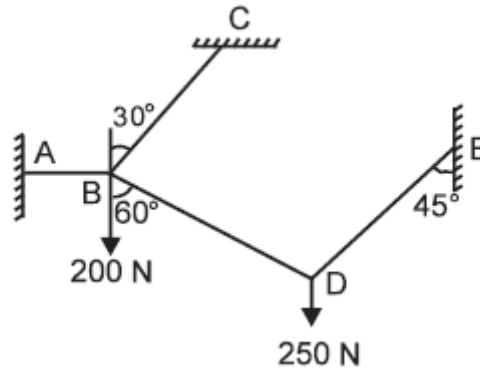

Fig. 3
- A system of connected flexible cable shown in Fig.3 is supporting two vertical forces 200 N and 250 N at points B and D. Determine the forces in various segments of the cable. [10 M]